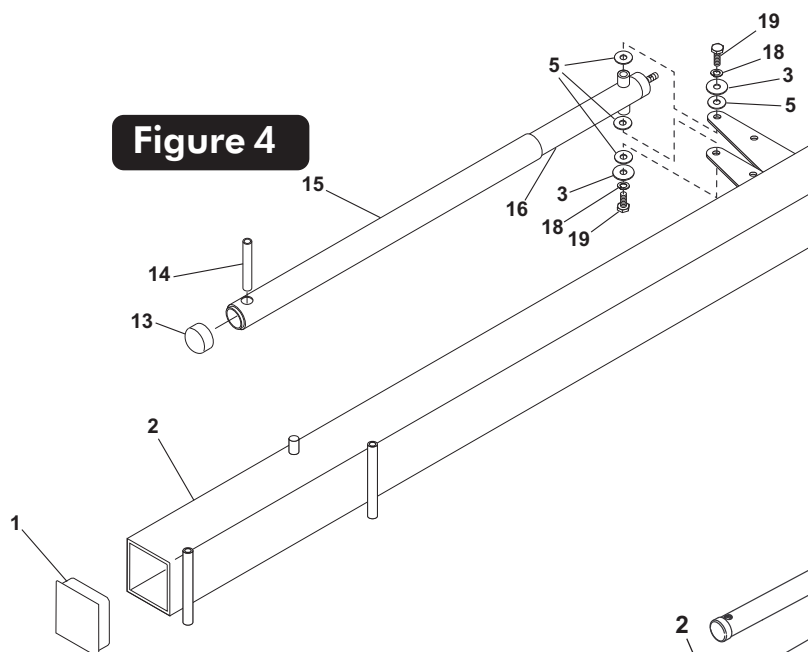

Figure 4
2. Slide Actuator Sleeve (#15) over Actuator (#16) and place Actuator Cap (#13) on top. Slide Pivot Tube (#14) in hole near the top of Actuator and Actuator Sleeve until equal amounts stick out on both sides of Actuator. See Figure 4.
3. Lay Pole (#2) on its side on two padded saw horses. Secure Actuator (#16) to Pole (#2) using one bolt (#19), split lockwasher (#18), washer (#3) and two plastic washers (#5) to thread into each side of Actuator. See Figure 4. Tighten bolts tight.